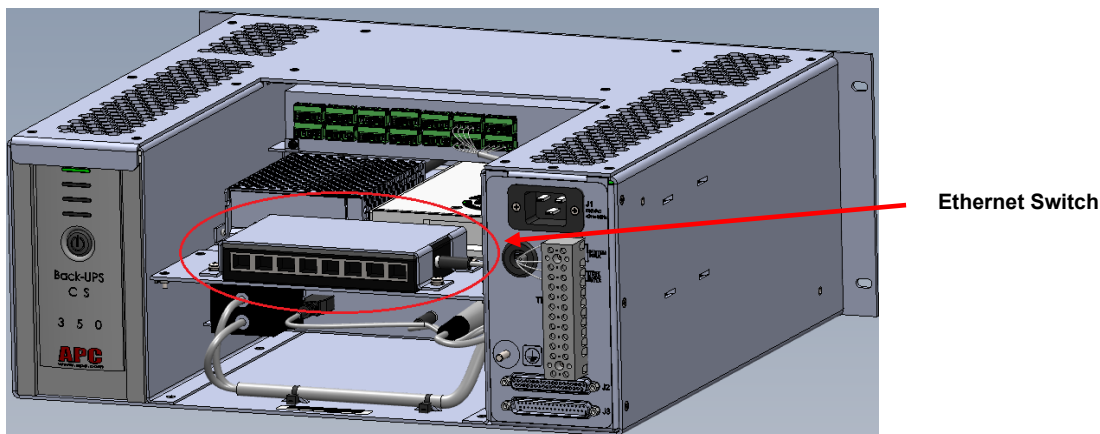

Figure 1: Ethernet Switch Location on the Control Module
- (a) To gain access to the web-based interface, connect an Ethernet cable between the PC/laptop and the Ethernet switch on the rear of the control module (see Figure 1).
The NAX281 Control Module has an 8-port Ethernet switch (see Figure 1). The NAX282 Control Module (for main-standby systems) has a 5-port Ethernet switch.